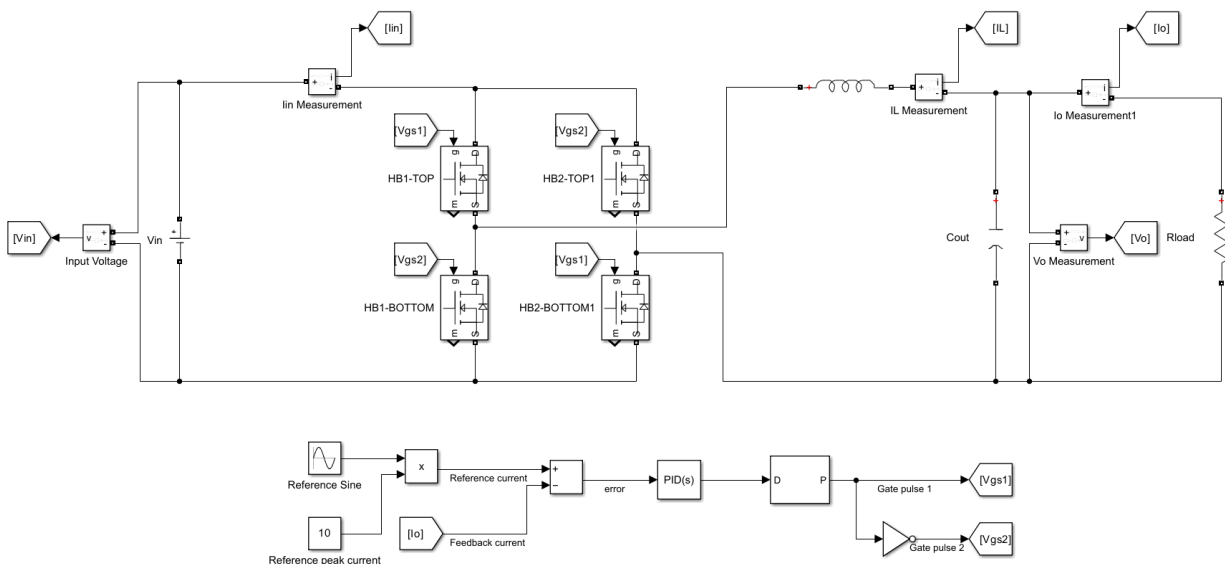
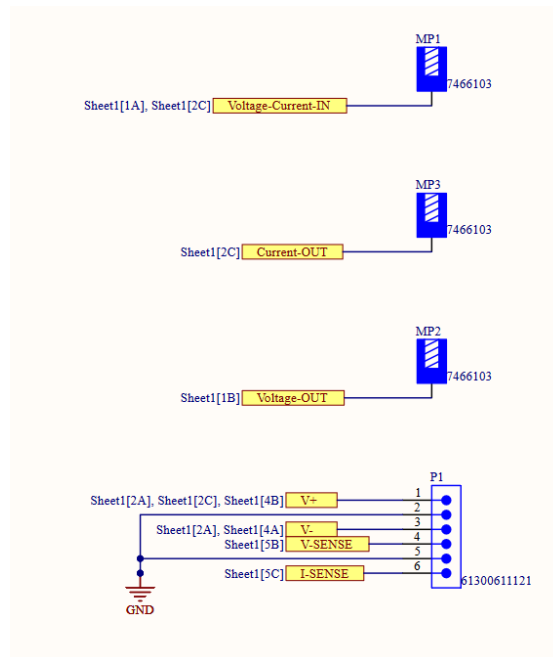

Figure 1: H-bridge simulation
Figure 6: Use of connectors and headers in the circuit for interface.
In the previous lab 2-2 students were taken through the process of establishing closed loop control for an **H-Bridge inverter** in SIMULINK environment. **Figure 1** illustrates the simulation circuit and closed loop control block.
- After the circuits have been designed students must add appropriate headers and connectors to the design. The designed PCB will need to interface with a converter power circuit and a microcontroller input. **Figure 1** shows the placement of current and voltage sensors on the converter circuit. Based on that students can observe the “**Example schematic 0.3.pdf**” to see the use of headers and connectors for both power and signal connections. **Figure 6** illustrates the section of the schematic in question.